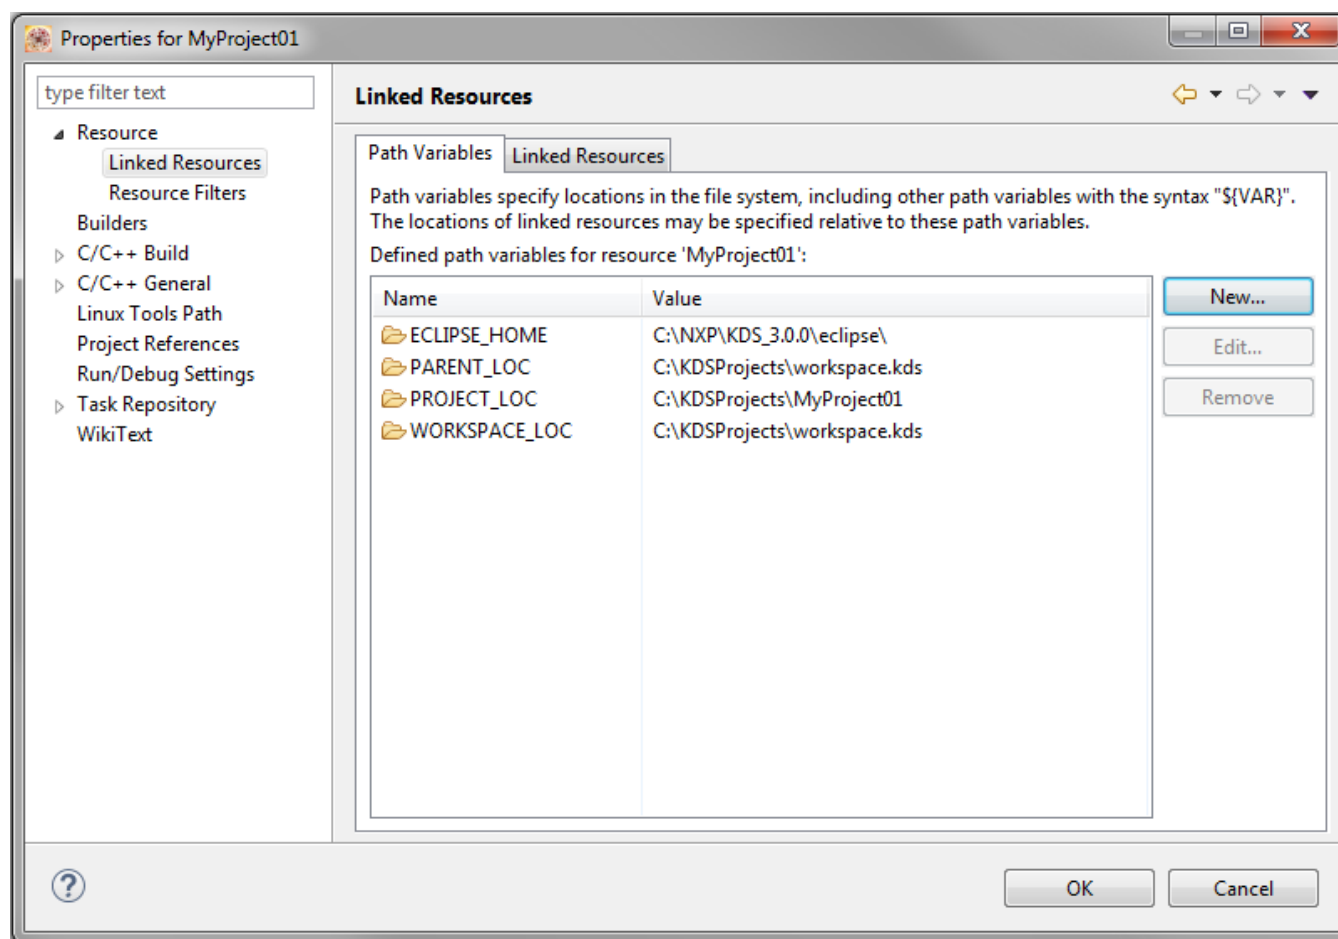

Figure 1-5. Project properties
2. Expand the Resource node and click Linked Resources. See Figure 1-5.